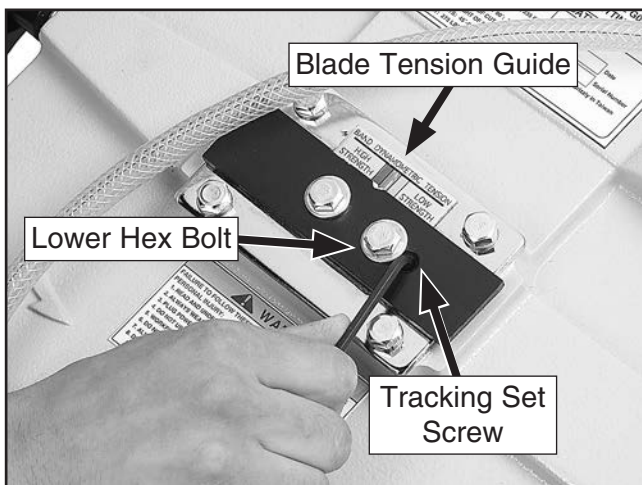

Figure 57. Blade tension controls.
2. Tension blade until blade tension guide indicator is in green zone (see **Figure 57**).
6. Adjust set screw with a 4mm hex wrench (shown in **Figure 57**), then tighten hex bolt loosened in **Step 4**.